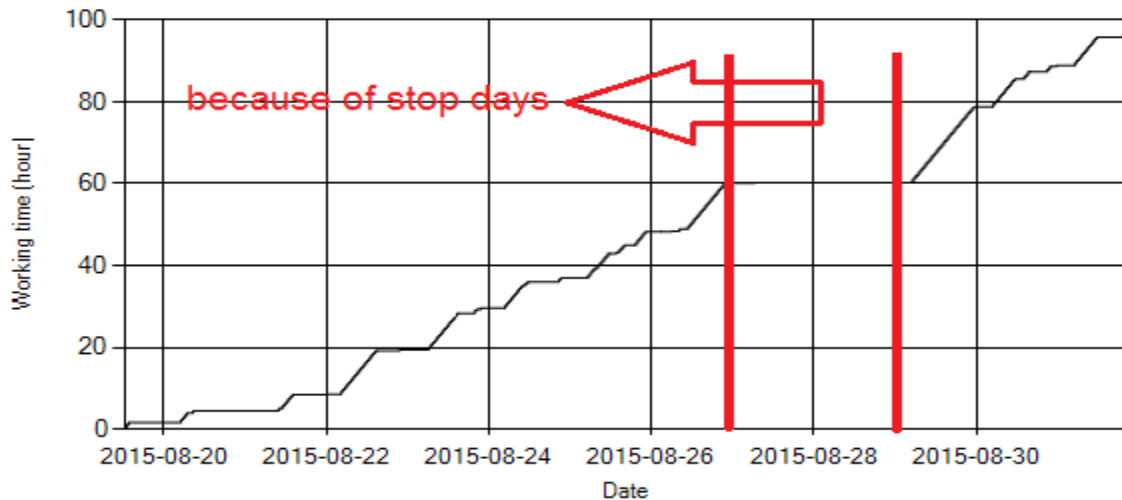

Figure 12- Time diagram for calculating CPK's working days
**Notice:** Data logger sampling time can be calculated from Figure 12. The lines parallel with Date axis show days without data logger data. As depicted in Figure 12, data logger didn't sample on Aug 27th and 28th because of stop days.